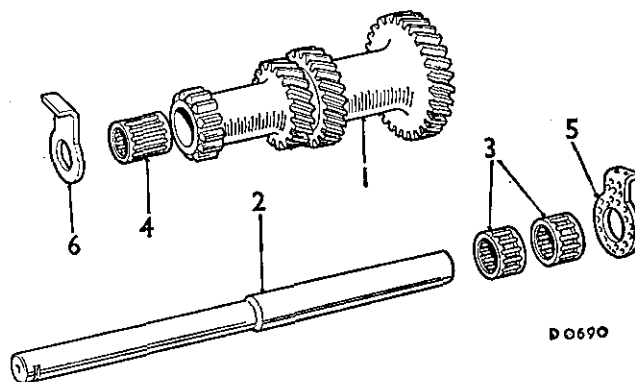

Fig. F.4
(28) Refer to item (18). Drift the third motion shaft bearing into the central web using Service tool 18G 579 modified, together with the spacer washer.
(29) Refit the laygear with the standard sized thrust washer at one end, and measure the gap at the other. Refer to the chart (Fig. F.4) to select the correct variable thrust washer, to give an end clearance of between .002 and .006 in. (.05 and .15 mm.). On three-speed synchromesh gearboxes the small thrust washer is of a standard size, the large one selective, and vice versa on four-speed synchromesh gearboxes.